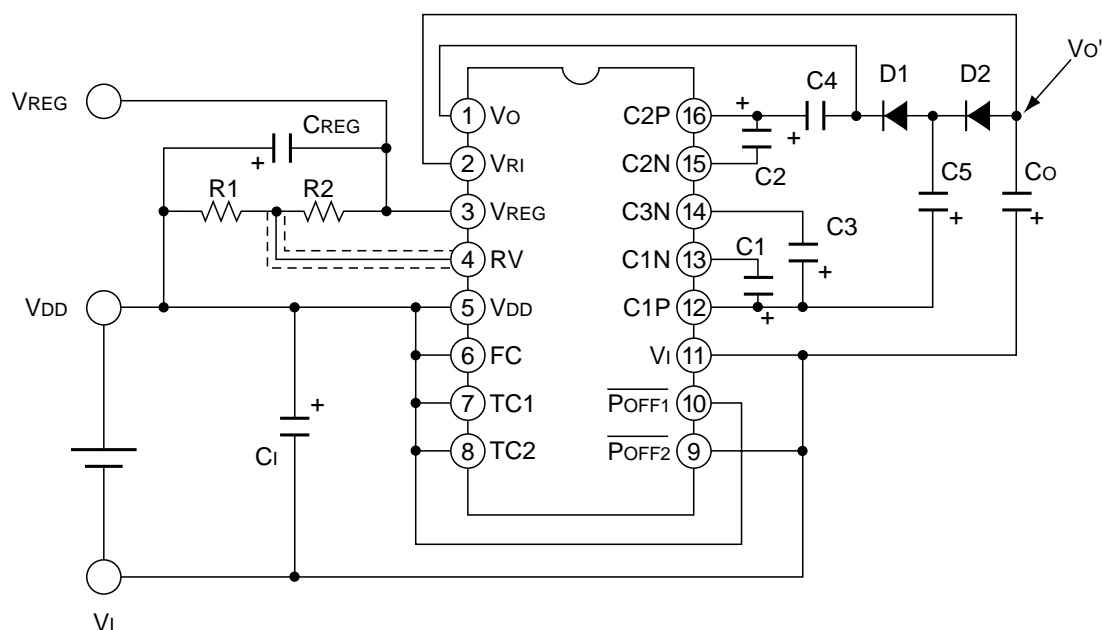
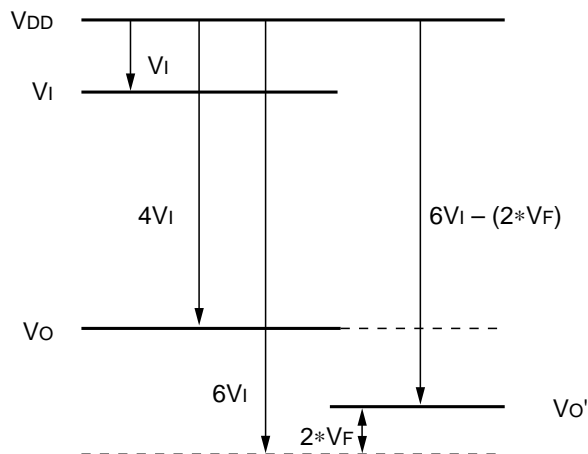

Figure 2.12 Wiring example for 6-time boosting using diodes
Figure 2.13 Potential relationship during 6-time boosting using diodes
Figure 2.12 gives a wiring example of 6-time booster and regulator that use two diodes. The wiring between V_O and V_I must be minimal. Figure 2.13 provides the potential relationship.
◇ Setup conditions of Figure 2.12
- When diodes are used for voltage boosting, the characteristics of diodes directly affect on the voltage boosting characteristics. The forward voltage drop (V_F) of diodes can reduce the booster output voltage. As the example of Figure 2.12 uses two diodes, the drop of “ V_F ” voltage multiplied by two occurs as shown in Figure 2.13. The booster output voltage is expressed by equation (5).
To satisfy the input and output current ratings, limit the total current does not exceed the rated input current. The total current means the total boost time multiplied by the output load current. The example of Figure 2.12 has the maximum load current of 13.3 mA (= 80 mA divided by 6).
To satisfy the input and output voltage ratings, take care not to violate the electric potential relationship of higher time boosting using diodes. The example of Figure 2.12 must have the “ V_I ” that can satisfy the input voltage conditions during 6-time boosting (see Table 2.3).